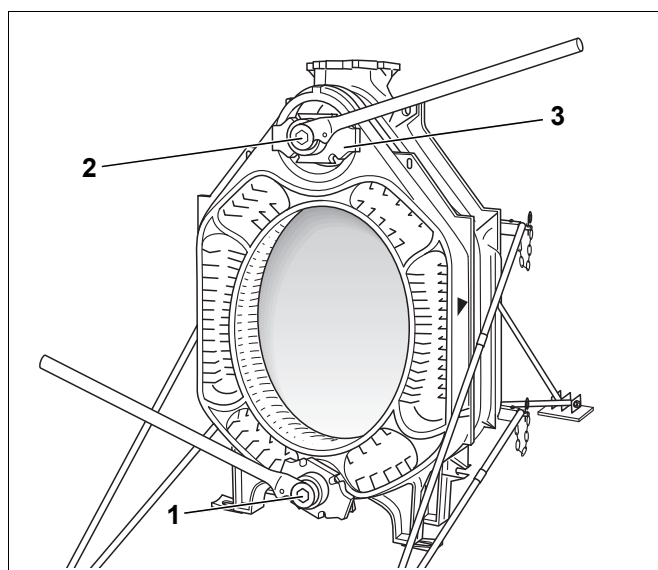

Fig. 19 Use the boiler compression tool
Use the boiler compression tool size 2.2 or 2.3 (Fig. 4 or Fig. 5 and Fig. 19, [1] and [2]).
- Push the compression flanges (Fig. 19, [3]) onto the pull rods (Fig. 4, page 15 or Fig. 5, page 15, [4]).